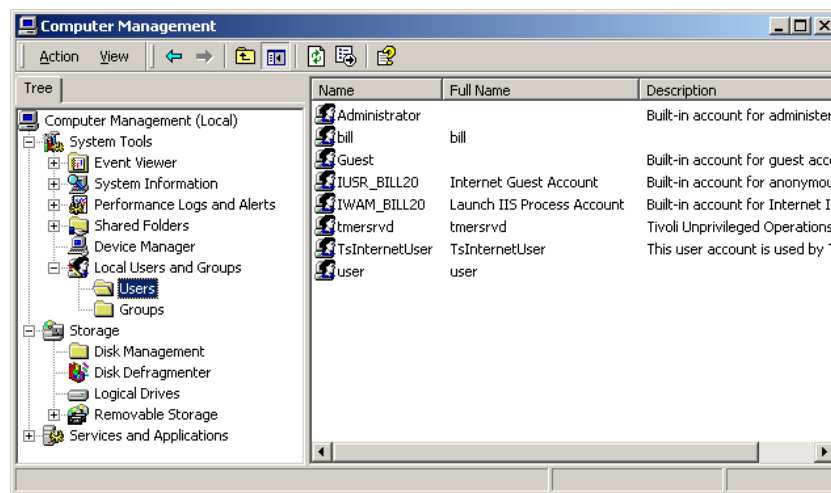

Figure 2-66 Domain user management window
- 1) Select [Start/Programs/Administrative Tools/Computer Management/Local Users and Groups] to start the user management program. See Figure 2-66